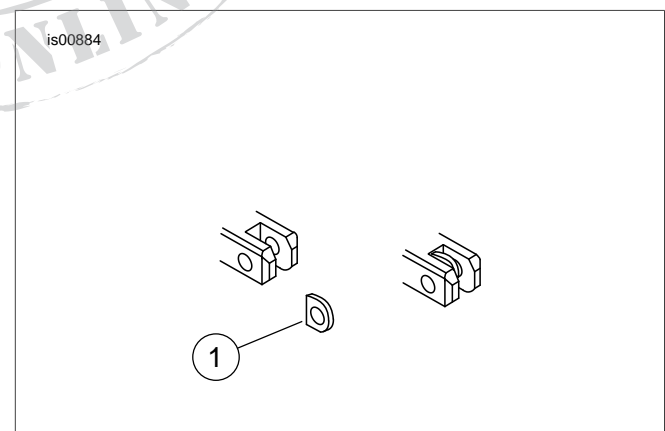

Figure 2. Footpeg Spring Washer Installation
When performing Step 3, make sure the spring washer (3) is positioned inside of the footpeg support with the square edge towards the inside of the support as shown in Figure 2.
3. See Figure 2. Install the new footpegs in the same manner as the old footpegs were installed. Place a spring washer (1), along with the mount end of the footpeg, inside the slots of the footpeg supports.